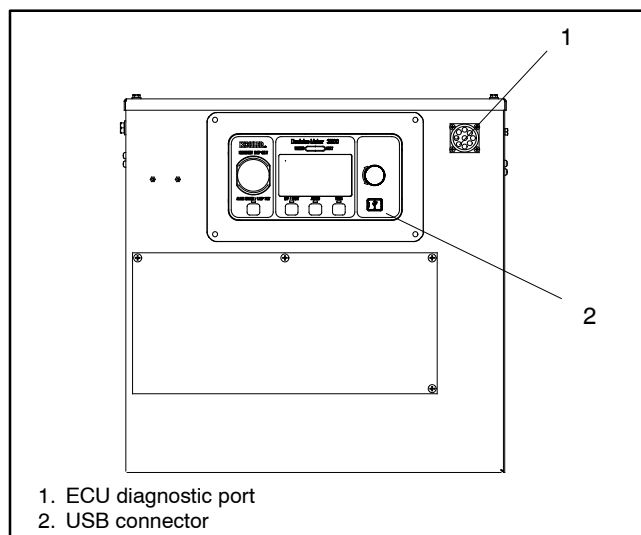

Figure 6-8 ECU Diagnostic Port and USB Connector Locations
1. Connect a USB cable from a Laptop (equipped with SiteTech™) to the Decision-Maker® 3500 controller. See Figure 6-8 for the USB connection at the Decision-Maker® 3500 controller.
2. Connect the John Deere Electronic Data (EDL) from a Laptop (equipped with John Deere Service Advisor) to the ECU Diagnostic port on the generator. See Figure 6-8 for the port location.